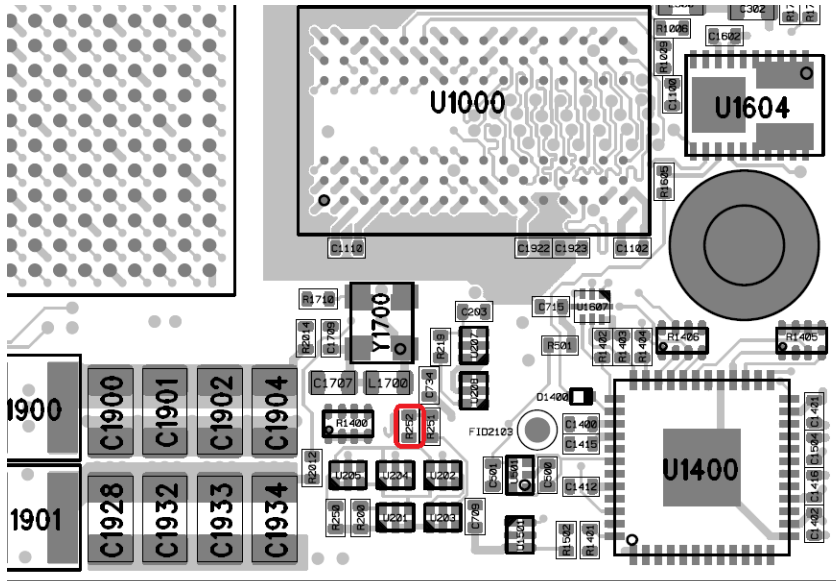

Figure 14: JTAG Boot Mode Resistor - Assembly Drawing Top View (lower right part)
2. While powering-up the module, short-circuit R252 (see Figure 14). This allows to sample the MPSoC boot selection pins correctly for JTAG boot mode.